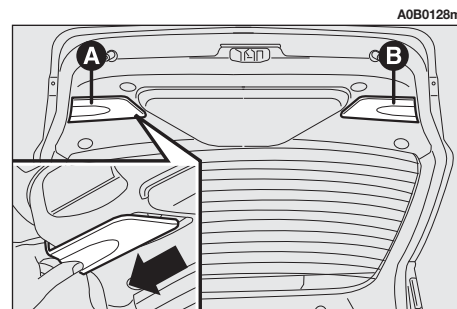

fig. 48
- Remove the cover (A or B-fig. 48) in correspondence with the light concerned, withdrawing it at the side.
— Refit the lid (**A** or **B**-fig. 48) inserting it from outside until it fits in.